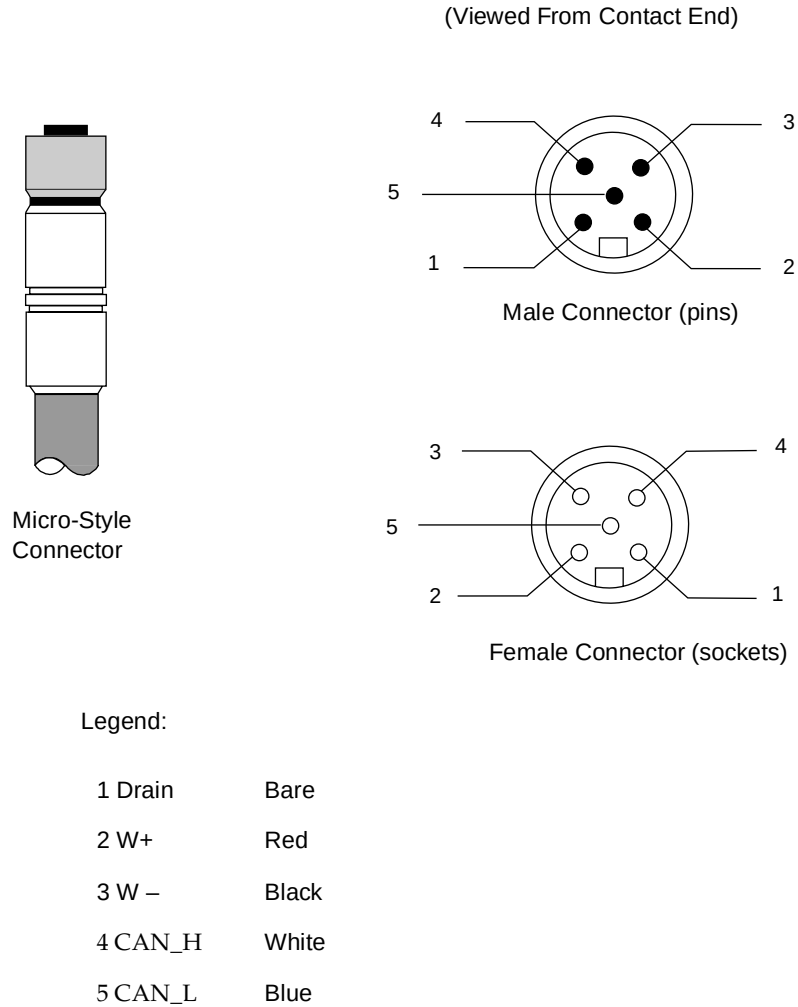

Figure 7-11. Micro-Style Connector Pinouts
- Female connector for the robot tower; Micro-style 12 mm thread DIN female connector (see Figure 7-11 on page 157)